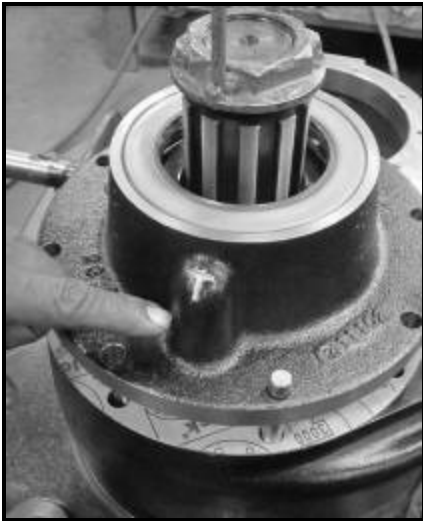

Figure 93
13. Using a new gasket and eight cap screws, install the front output shaft assembly to the declutch housing. Torque to specification. See **Figure 93**.